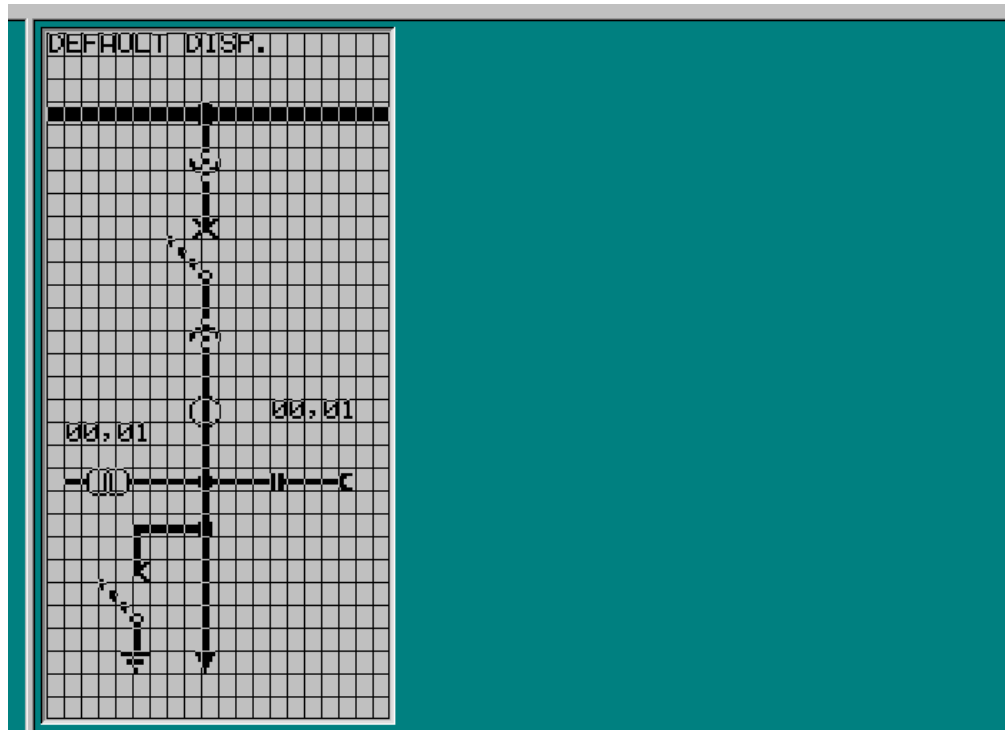

Figure 5-50 Preset Control Diagram
- Use dynamic symbols for breaker and switches (See Figure 5-50).
As delivered from the factory, the relay contains a control diagram (see Figure 5-50) which may be modified or replaced to represent the actual equipment arrangements.